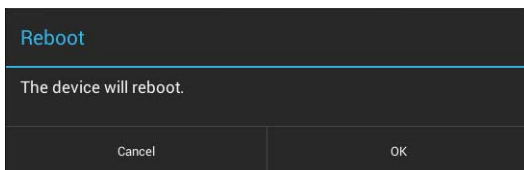

FIG. 11 Reboot window
1. In the *Maintenance* page, select **Reboot**. This opens the *Reboot* window (FIG. 11).